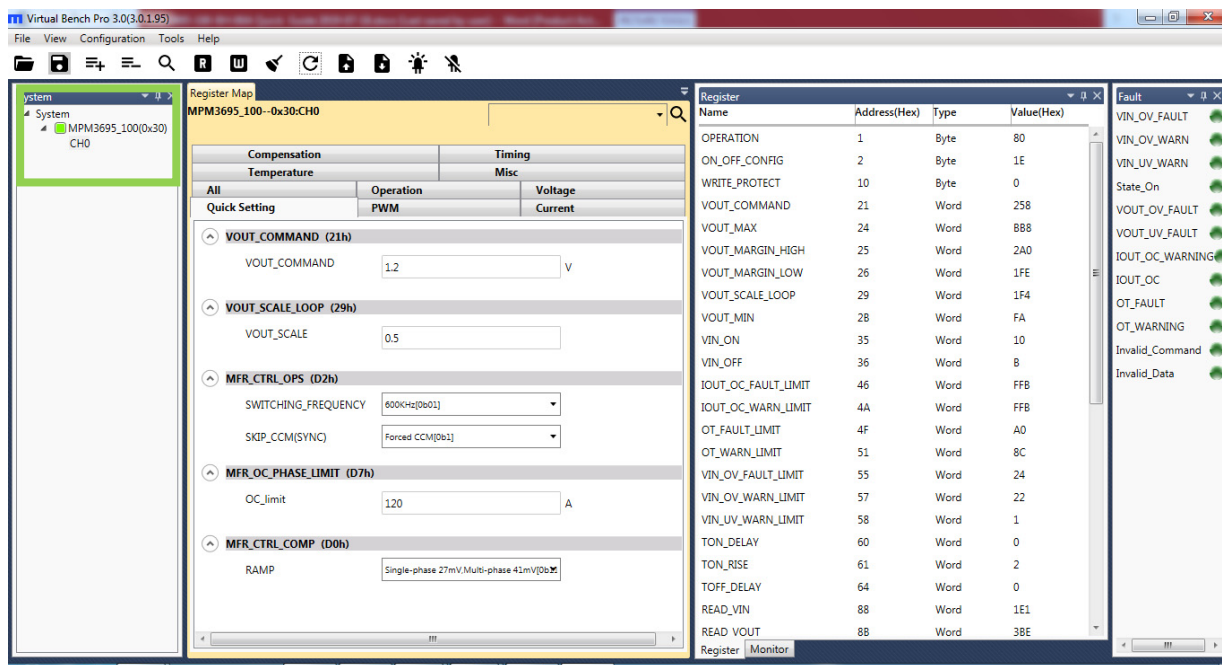

Figure 4: Successful Connection
4. Open Virtual Bench Pro 3.0. The software should automatically scan the connected power modules. If the GUI detects the power module, an address appears next to the “MPM3695-100” on the left panel, and the indicator turns green (see Figure 4 on page 5). See the Evaluation Board Connection Issue section on page 9 if the power module is not detected.